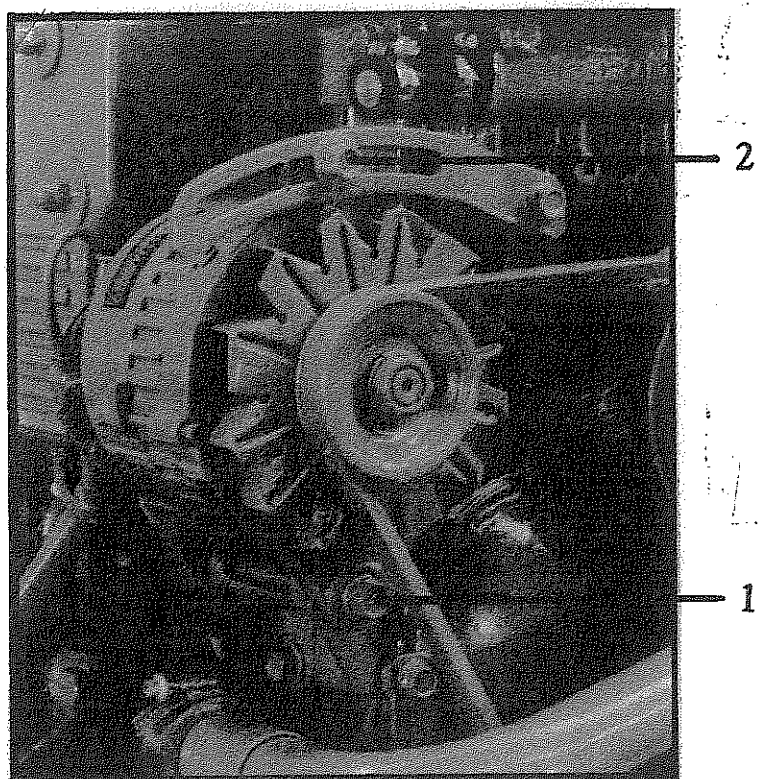

Figure 27
To tension the alternator belt the two alternator positioning screws, one located at the alternator lower side (1) and the other at the upper side (2) i.e the tensioner, shall be loosened, the belt shall be tensioned levering up with the alternator until the suitable tension is achieved (Fig. 27).
Loosen the two screws (1) and (2) of Fig. 27.